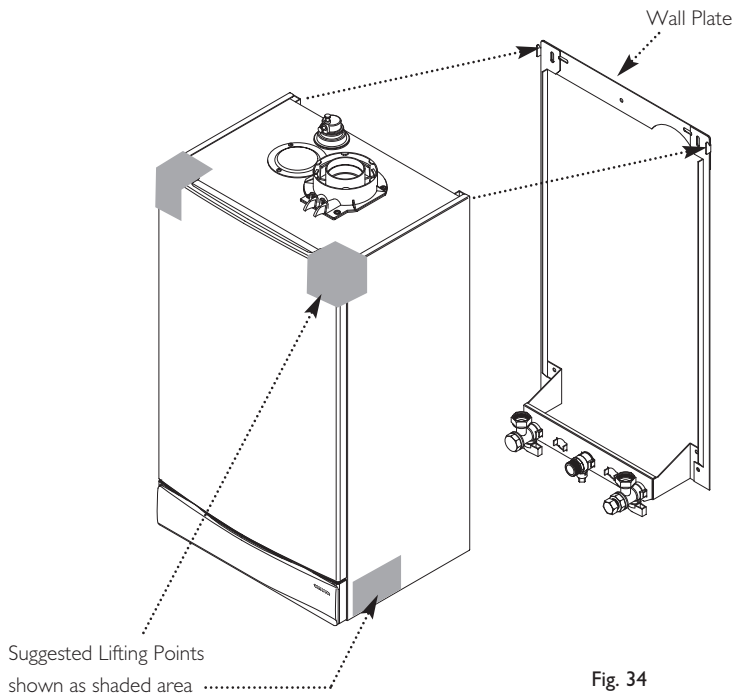

Fig. 34
1. Lift the boiler using the Lifting Points as shown by the shaded areas (Fig. 34). The boiler should be lifted by TWO PEOPLE. Engage the slots at the top rear of the boiler on the wall plate (Fig. 34) (see **Safe Manual Handling** page 5).